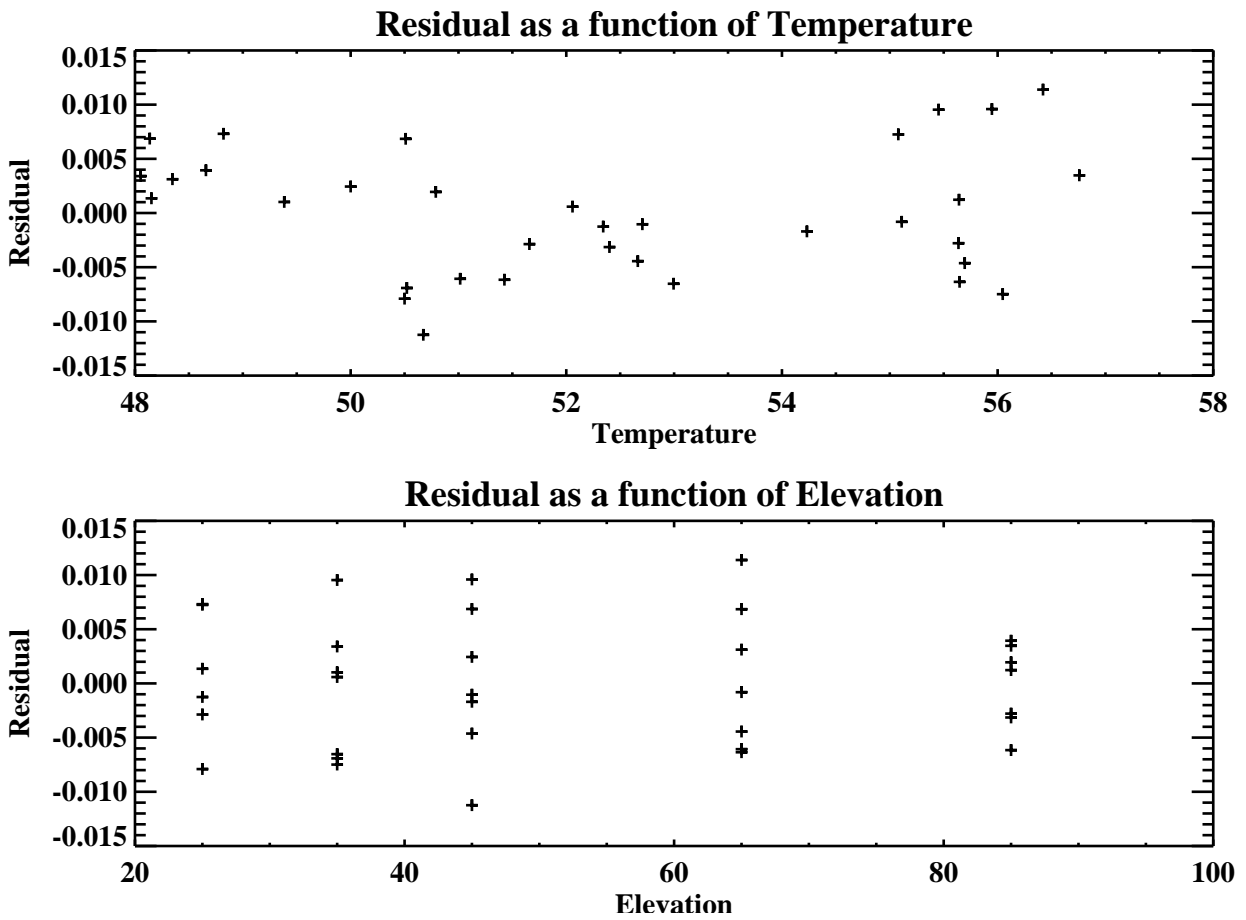

Figure 6.2: Plot of focus residuals as a function of temperature and elevation.
4. When it completes, a residual plot like that in Figure 6.2 is made. The focus model constants (and configuration file abbreviations) are also printed: